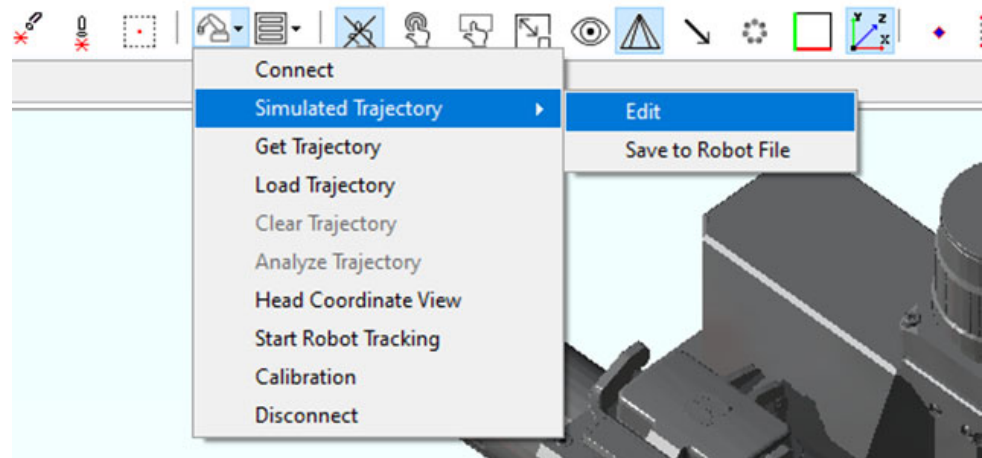

Figure 243: Opening the Simulated Trajectory Window
4. In the Tool bar, click on the robot icon, navigate to "Simulated Trajectory," and click "Edit." See Figure 243 (below).